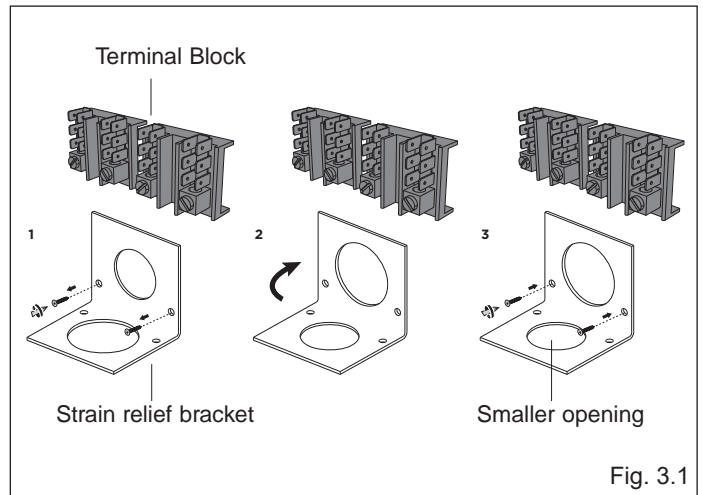

Fig. 3.1
- The strain relief bracket orientation must be so that the 1 1/8" (29mm) smaller opening is facing down (fig. 3.1). If not, the strain relief bracket orientation must be switched in order to accommodate for a permanent wiring connection: